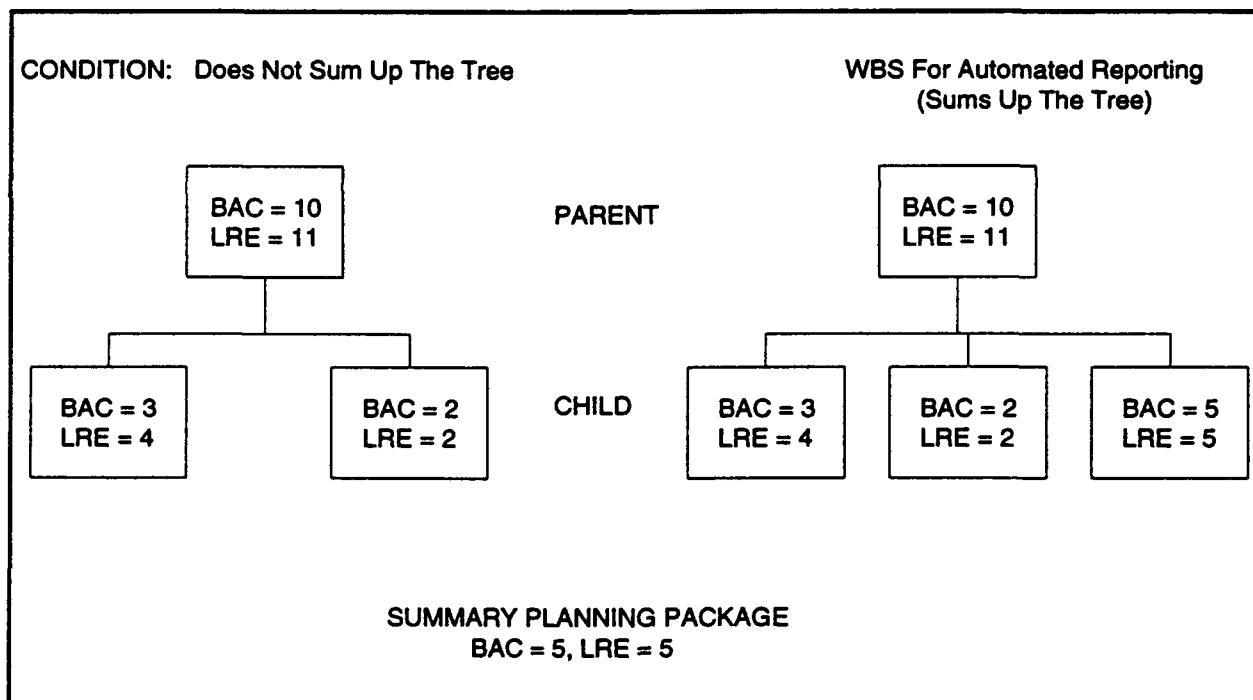

Figure C-2
2. The WBS and Functional structure must sum from the bottom-up. If summary-level planning packages are used at a parent level, a child must be created below the parent that equals the amount of budget in the planning package (see Figure C-2).